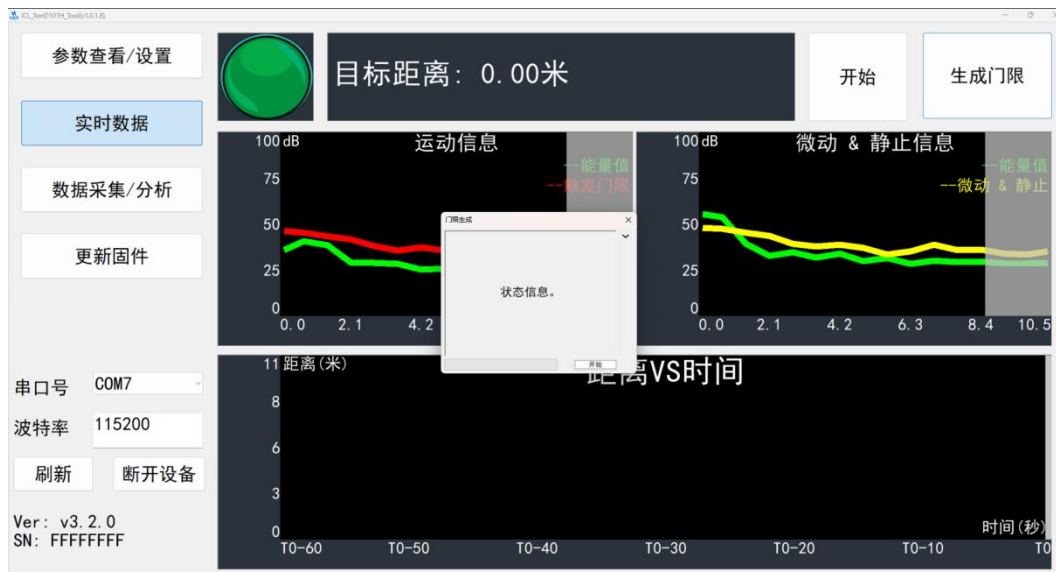

Figure 7 Threshold generation interface
2. After entering the trigger and hold threshold generation coefficients in the "Threshold Generation" window, click the "Start/Close" toggle button. The host computer tool will start automatically generating the threshold, and the progress bar and the text below will display the generation progress in real time, as shown in Figure 7.